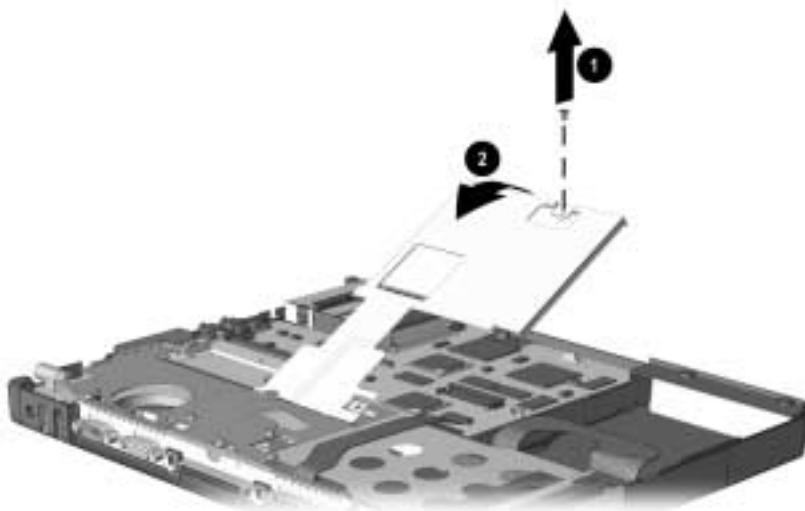

Figure 5-22. Removing the Front Shield
3. Remove the screw **1** that secures the front shield to the base enclosure (Figure 5-22).